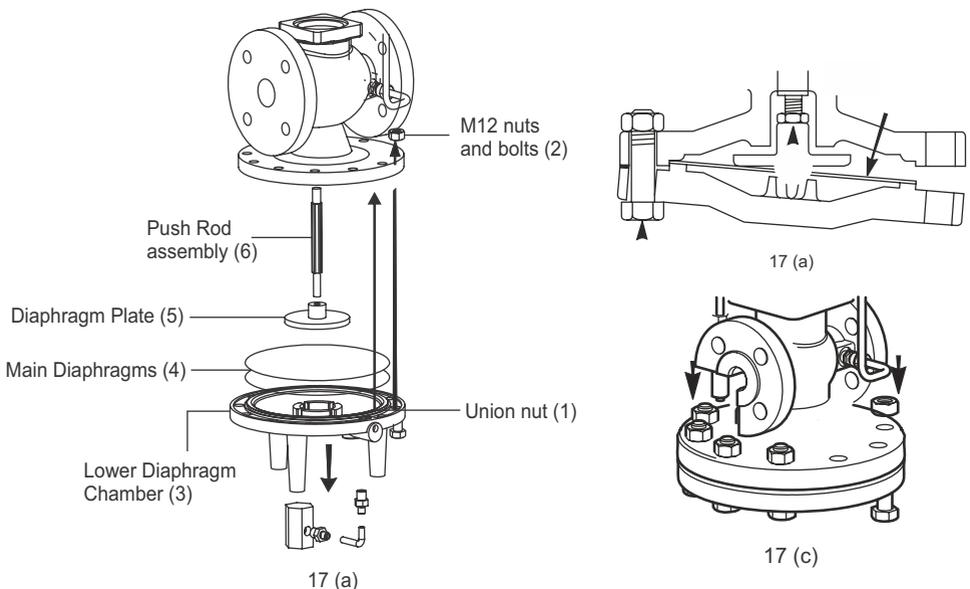

Figure 17: Main Diaphragms
7.9 Procedure to renew or clean main diaphragms: (Refer to Figure 17)